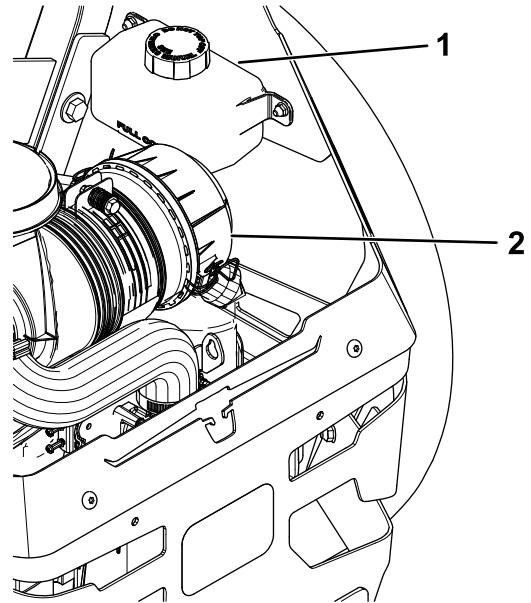

Figure 91
2. Check expansion reservoir and if necessary add Toro® HYPR-OIL™ 500 hydraulic fluid to the FULL COLD line (Figure 91).